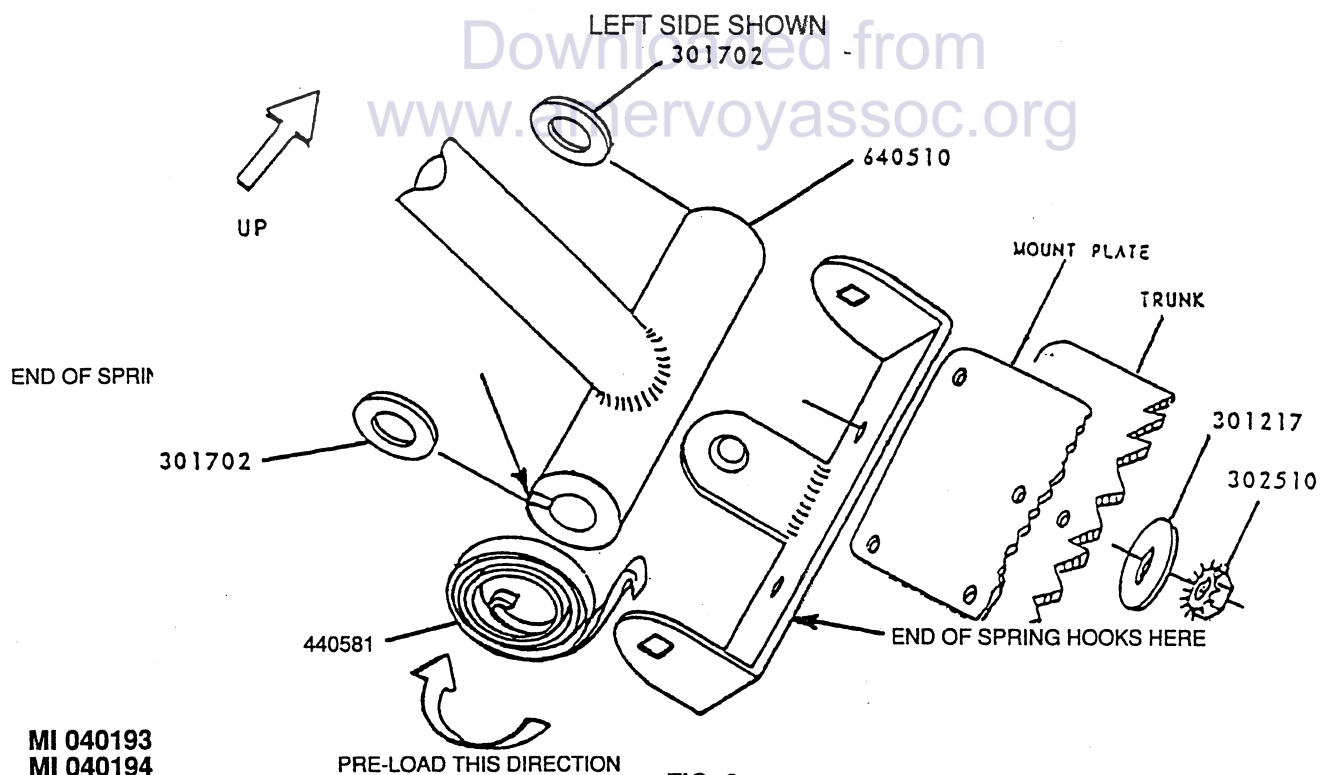

FIG. 2
10. REFER TO (FIG. 2) FOR PROPER SPRING INSTALLATION & PRELOADING.